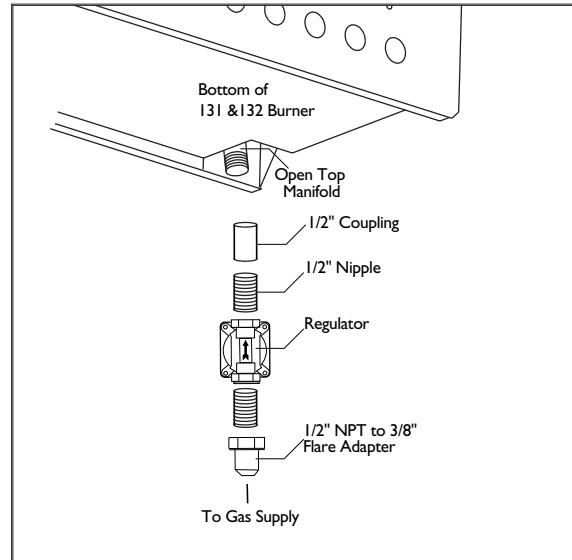
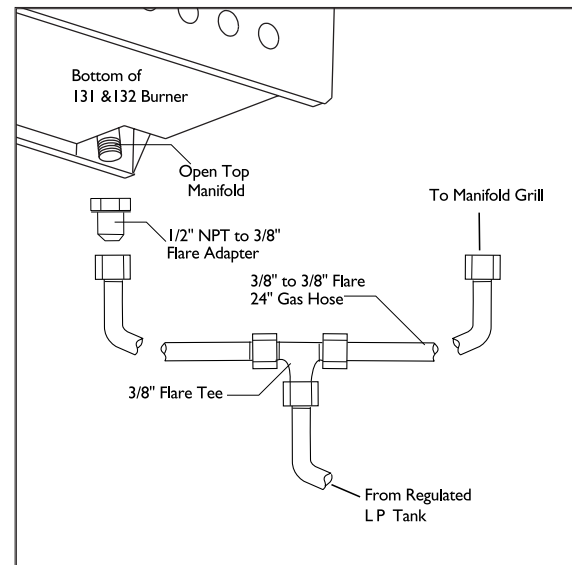
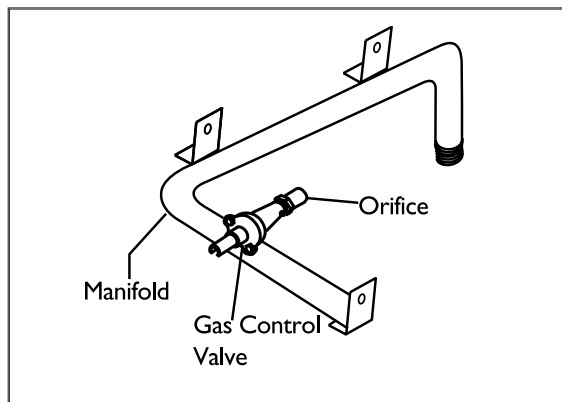

FIG.02
FIG.03
FIG.06
To hook-up the fittings supplied with the Professional Side Burner, assemble as shown in Fig.02. Use joint compound on male threads only.
Apply joint compound to the threaded end of the Side Burner gas inlet and tighten the adapter to the pipe. Assemble the (2) 24" hoses to the 3/8" flare tee, as shown in Fig.03. Tighten the regulator hose to the remaining fitting of the 3/8" flare tee.
Make a soap solution of one part liquid detergent, and one part water. Never leak test with an open flame. For LP units, check with a full cylinder. Make sure all control valves are in the "OFF" position. Turn the gas supply "ON". Check all connections from the supply line (Fig. 02), or LP cylinder (Fig. 03) up to the manifold pipe assembly (Fig. 06). Apply the soap solution around the connection with a spray bottle, brush, or rag. Soap bubbles will appear where leak is present. If a leak is present, turn off gas supply, tighten any leaking fittings, turn gas on, and recheck.